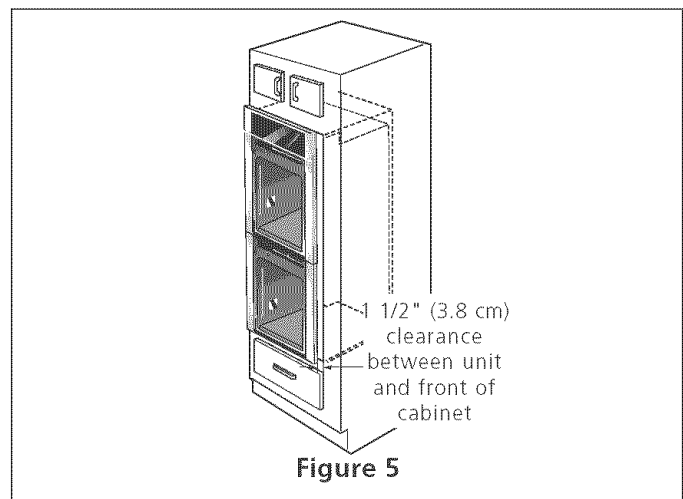

Figure 5
3. Insert the unit into the cabinet opening. Slide unit inward leaving 1 1/2" (3.8 cm) clearance between the oven and front of cabinet (see Figure 5). Pull the armored cable through the hole in the floor and toward the junction box while moving the appliance inward.